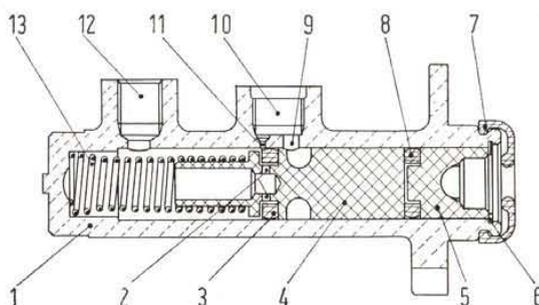

Fig. 288 - Master cylinder.
The brake pedal push rod directly actuates the piston (5, fig. 288). Tightness at the rear of fluid chamber is provided by rubber seal ring (8), identical to valve-ring (3).
The by-pass port (11, fig. 288) in master cylinder is such as to allow for quick take up in case of fluid expansion from brake drum overheating, minimize clogging possibilities as a result of foreign matter entering the lines, as well as improve the line bleeding by facilitating the expulsion of air bubbles from compression chamber.